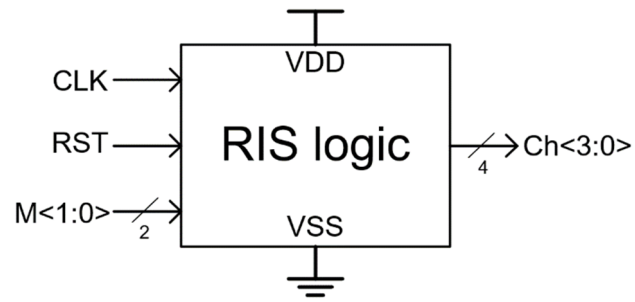

Fig. 1. The pin assignment of the RIS logic with N = 4
Table 1. The pin definition of Fig.1
1. Your design is only allowed to use the pins listed in Fig. 1 and Table 1.